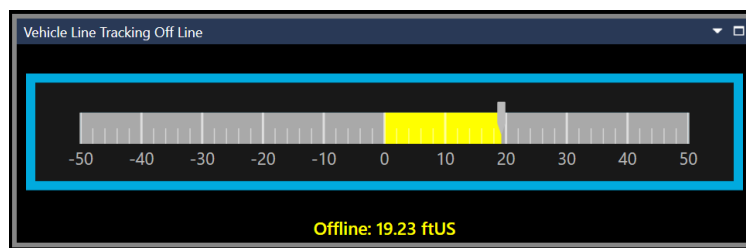
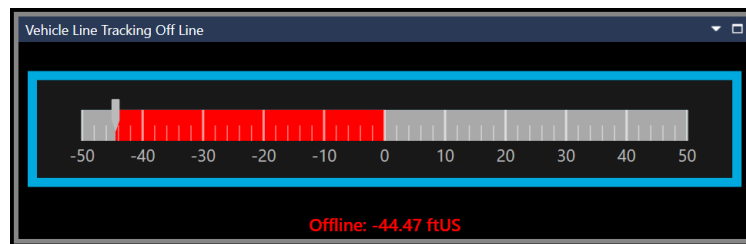

FIGURE 12-30 GUIDANCE CALCULATIONS - OFFLINE DISPLAY – THRESHOLD (YELLOW)
FIGURE 12-31 GUIDANCE CALCULATIONS - OFFLINE DISPLAY – THRESHOLD (RED)
- b. **Color:** The color with which to fill the offline display bar once the distance has exceeded the specified range. To change the color, click the drop-down button to expand the color picker and choose a new color. Figure 12-30 and Figure 12-31.